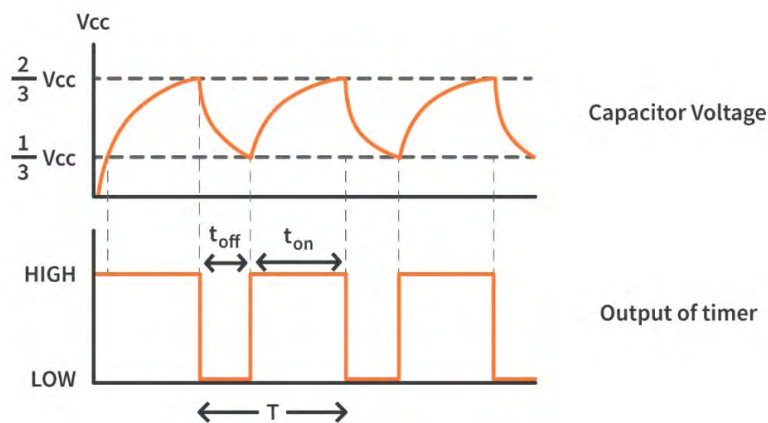

Figure 3.10: Output wave of an astable mode of a 555 timer
- d. Duty cycle:** Duty cycle is the ratio of the ON time (duration the output is in the HIGH state or pulse width) to the total time period of a cycle. For an astable multivibrator, the duty cycle is given by $T_{ON} / (T_{ON} + T_{OFF})$. Generally, the duty cycle of an astable multivibrator is **50%**. This means that for 50% of the cycle time, the output is "HIGH" and the remaining 50% of the cycle time, the output is "OFF". Figure 3.10 shows the output wave of the astable.